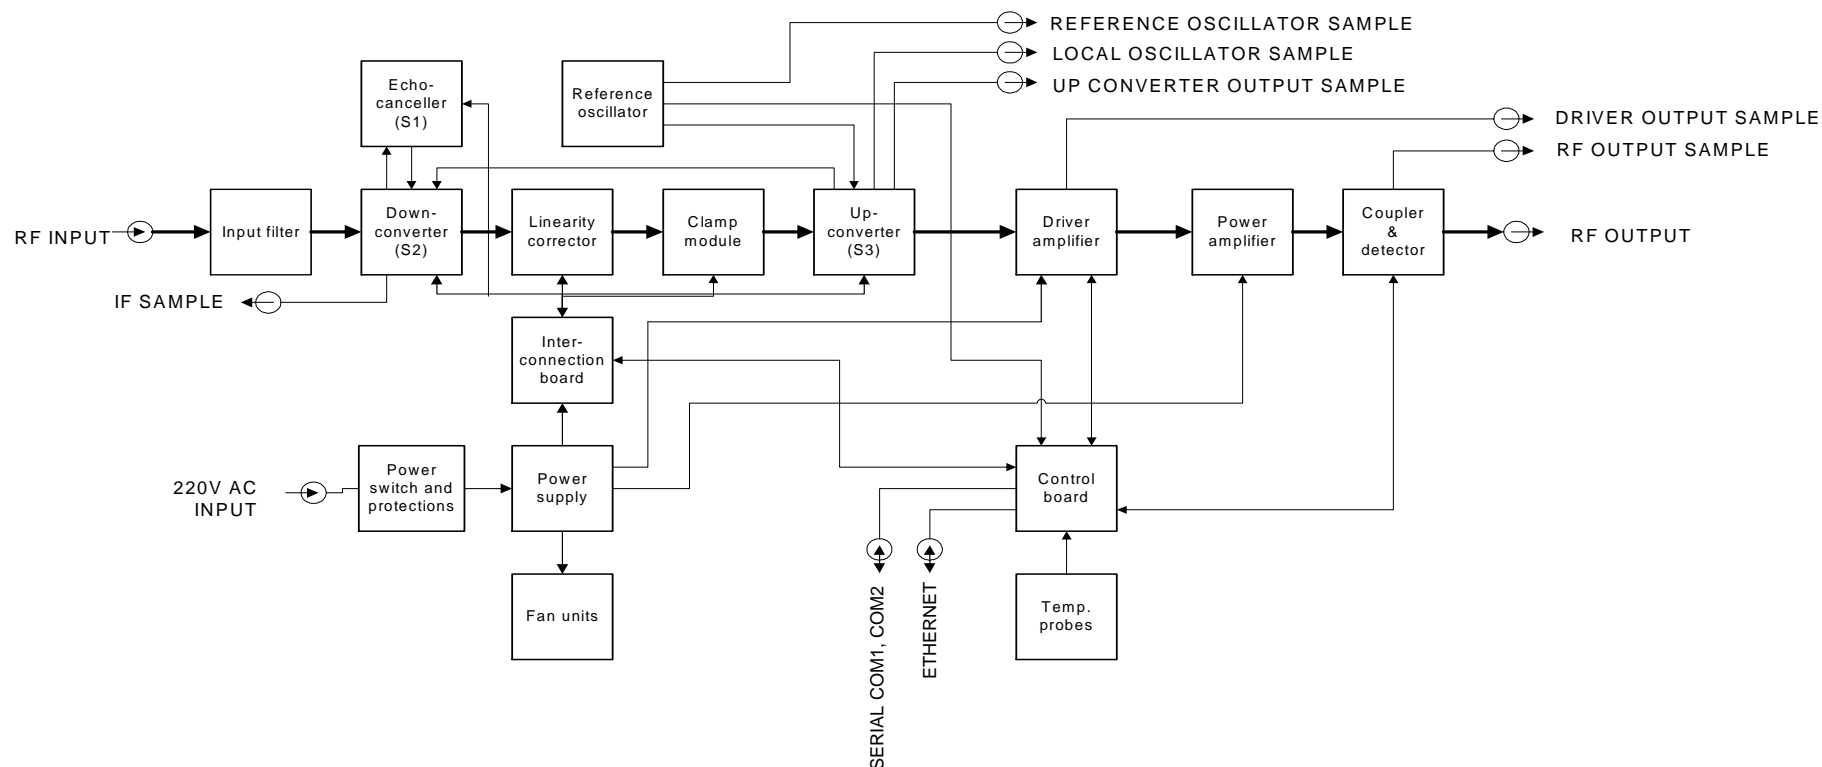

Figure 10.- Complete Gap-filler unit block diagram
- **Complete block diagram:** The elements and connections between them of the whole system are sketched in Figure 10. This schematic does not contain information about the signals transmitted between elements (modules and boards) of the unit. This schematic contains all the input and output connectors of the unit. For clarity purposes, the information of the signals has been divided in three diagrams: RF signals, power supply signals and measurements and control signals.